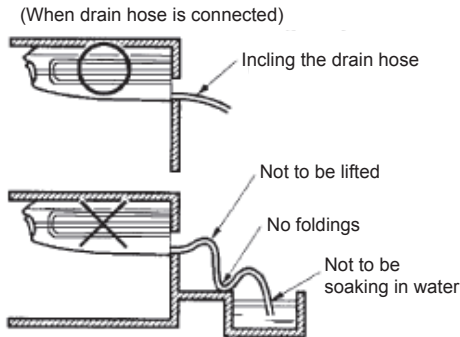
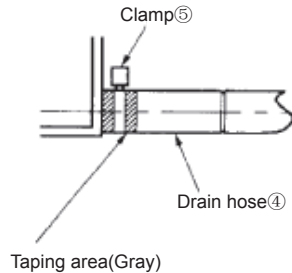

Fig.10
Fig.11
- (1). Drain piping.
- * Take the drainpipe as short as possible and slope downward at a gradient of at least 1/100 to prevent air pockets.(Refer to Fig.10)
- * Use the attached drain hose ④ and clamp ⑤ .
- * Insert the drain hose completely into the drain socket. Tighten the clamp within the range of gray tape until the screw head is less than 4mm from the hose. (Refer to Fig.11, Fig.12)